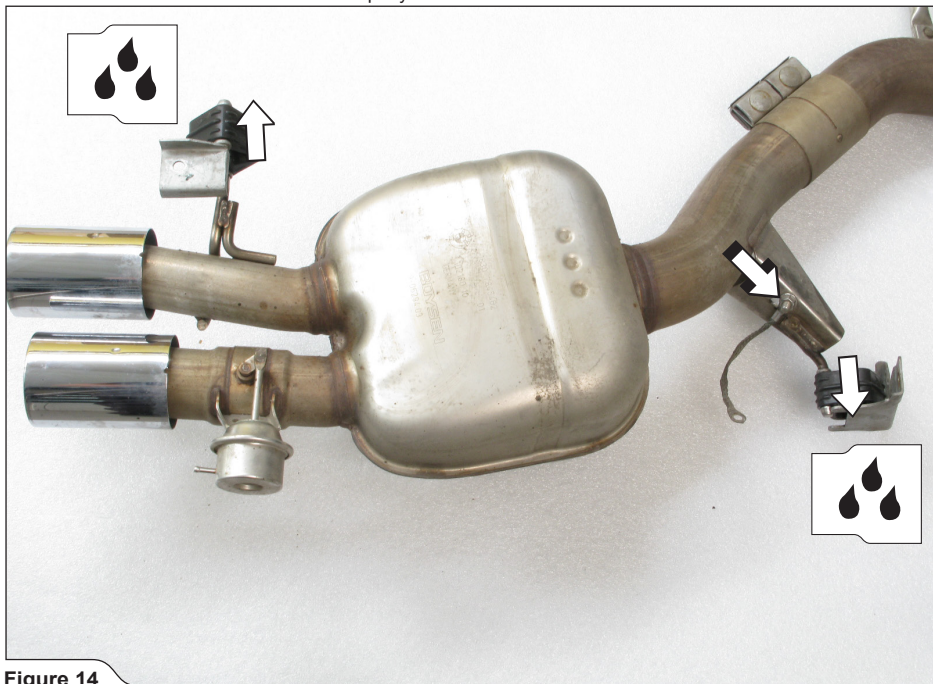

Figure 14
11. Carefully remove the complete stock exhaust system off the vehicle. Carefully pull all rubber brackets off both mufflers and unscrew both ground wires (**Figure 14**).